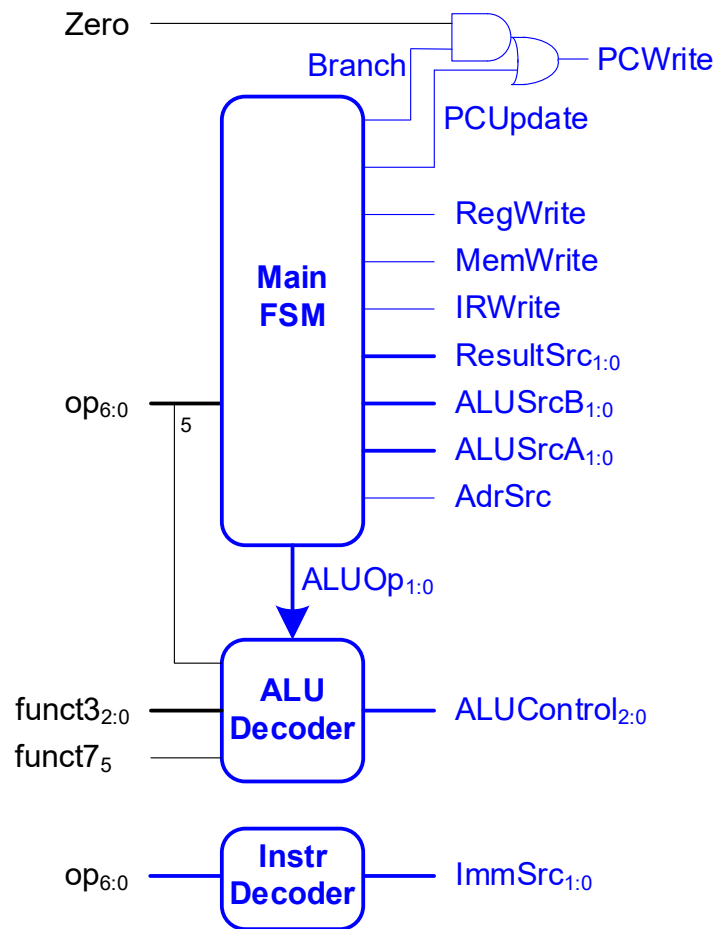

Figure 1. Multicycle control unit
- Figure 1 shows the multicycle controller block diagram
The controller should have the following module declaration and should follow the hierarchy of Figure 1. Remember that `op`, `funct3`, `funct7b5`, are bitfields of `Instr` and that `zero` is an output of the ALU.